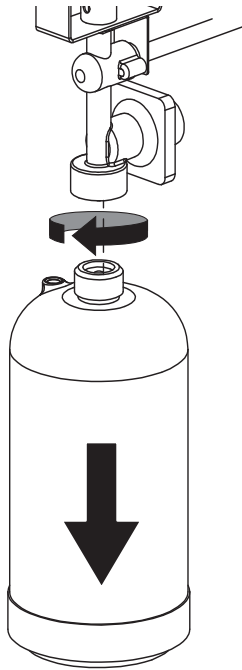

Figure 5
3. Rotate LP gas tank counterclockwise until it is loose. (Figure 5).